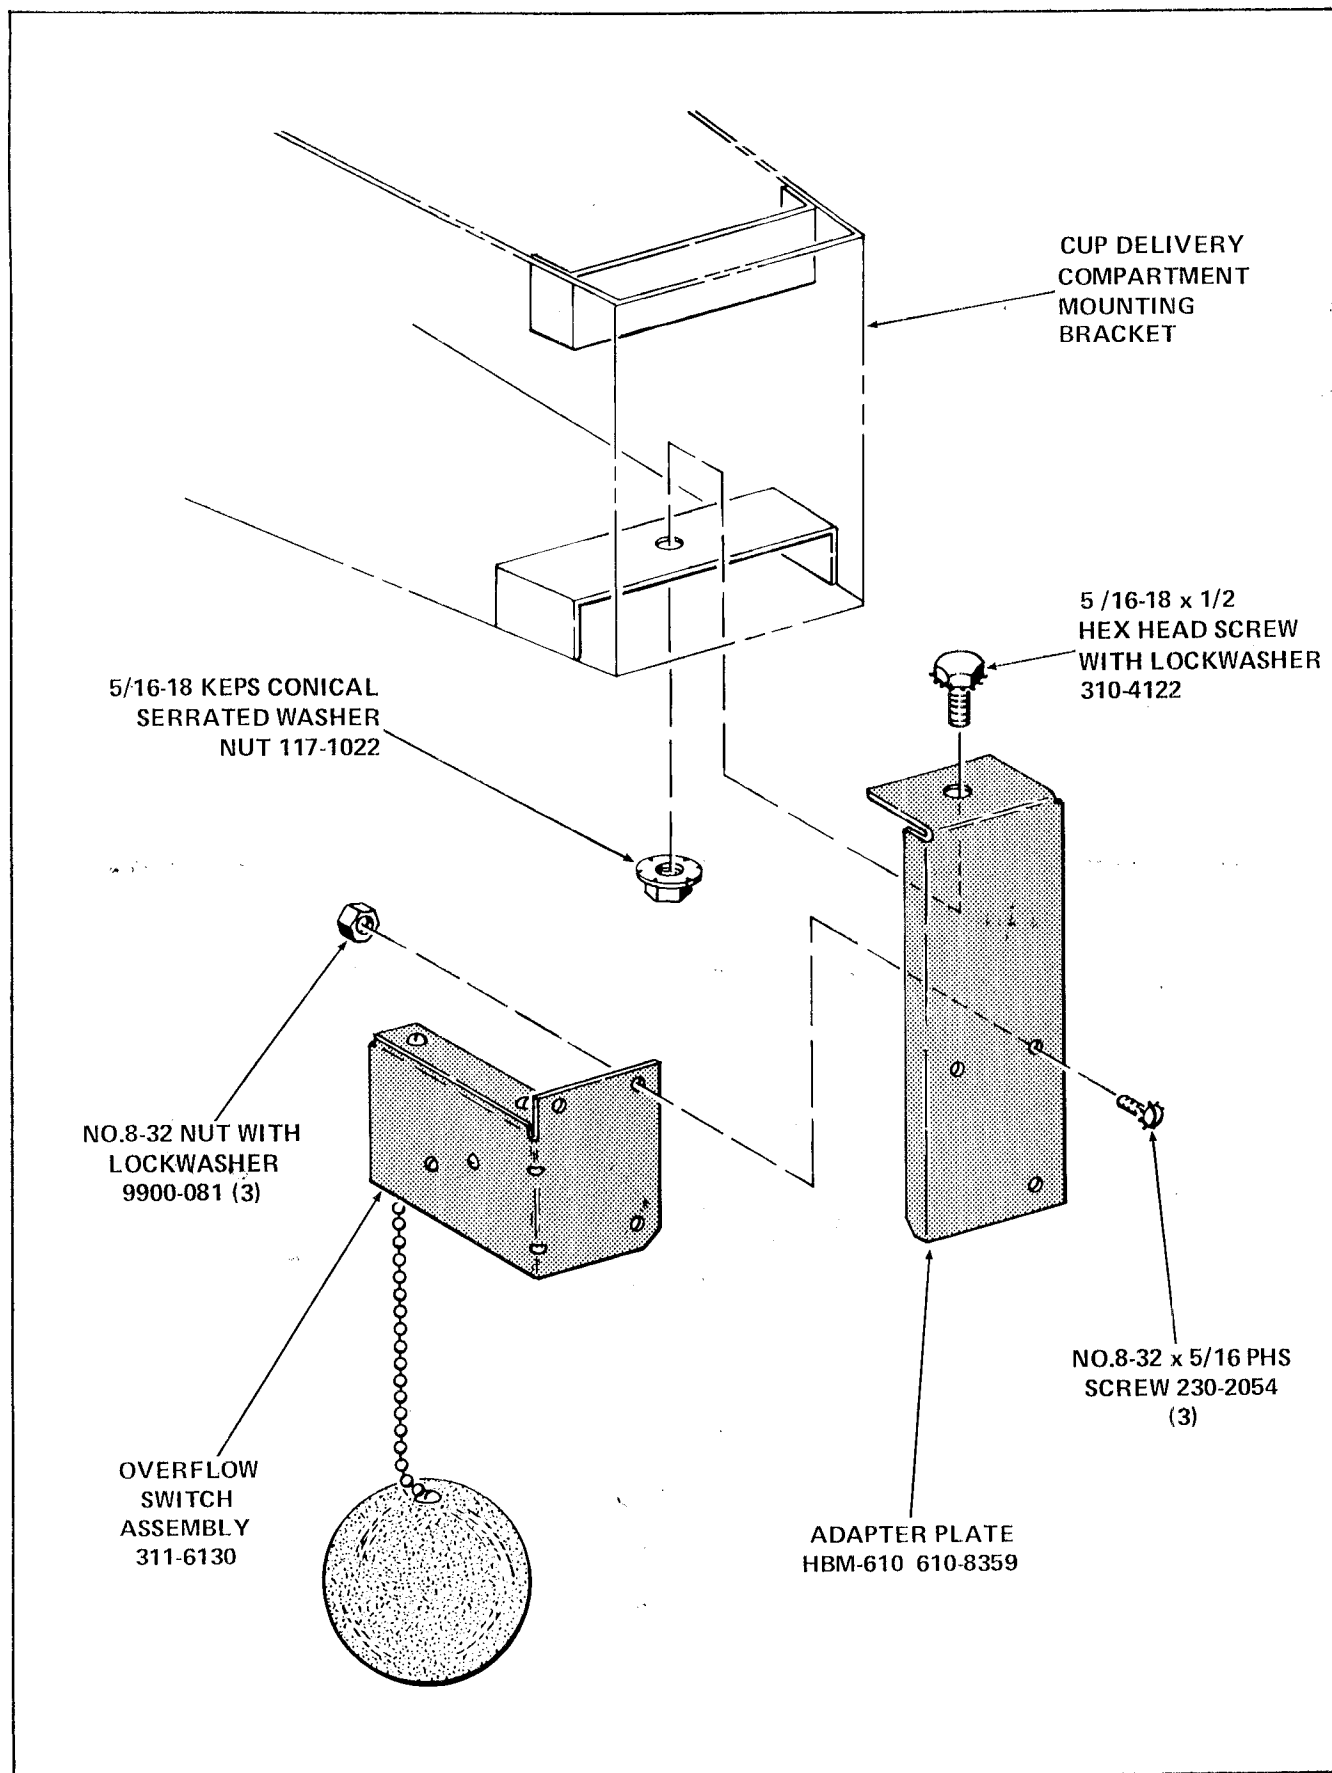

FIGURE 5
1. Position the large hole in the end of the Adapter Plate, Part Number 610-8359, included in the Kit, over the hole in the bracket, behind the front of the Cup Delivery Compartment Mounting Bracket. See Figure 5.
2. Attach the two brackets together, using the 5/16-18 x 1/2" Hex Head Screw W/Lockwasher, Part Number 310-4122, and the 5/16-18 KEPS Conical Serrated Washer Nut, Part Number 117-1022, both included in the Kit. See Figure 5.
5. Position the Overflow Switch Assembly, as shown in Figure 5, and attach to the rear of the Overflow Switch Adapter Plate, using three No.8-32 x 5/16 PHS Screws, Part Number 230-2054, and three No.8-32 Nuts W/Lockwasher Part Number 9900-081, all included in the Kit.